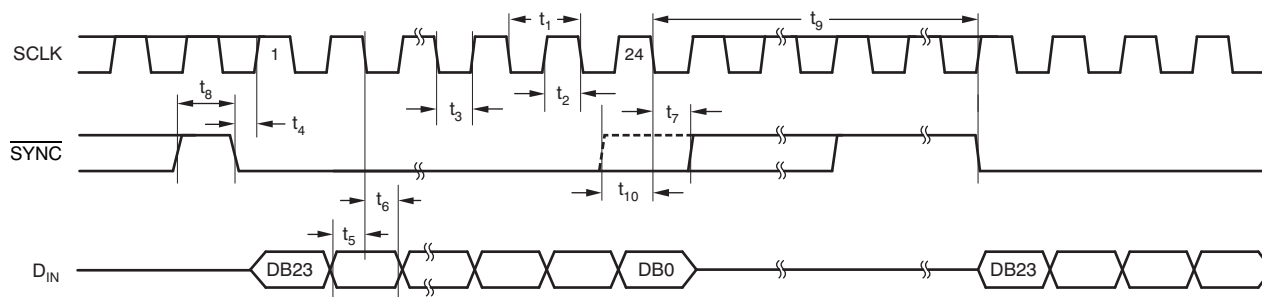

Figure 1. Serial Write Operation
(1) All input signals are specified with  $t_R = t_F = 3\text{ ns}$  (10% to 90% of  $V_{DD}$ ) and timed from a voltage level of  $(V_{IL} + V_{IH}) / 2$ .
(2) See Figure 1.
(3) Maximum SCLK frequency is 3 0MHz at  $V_{DD} = 3.6\text{ V to }5.5\text{ V}$  and 20 MHz at  $V_{DD} = 2.7\text{ V to }3.6\text{ V}$ .